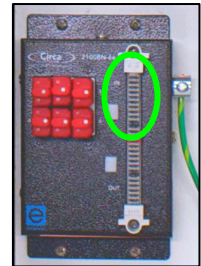

Fig. 6: "IN" Side
**1.6.4** After determining the optimum length, the trimmed, unterminated (open) end of the 48" connection cable are to be punched down onto the "IN" side of the 6-pair BIX-type solid state protector block. See Figure 6.